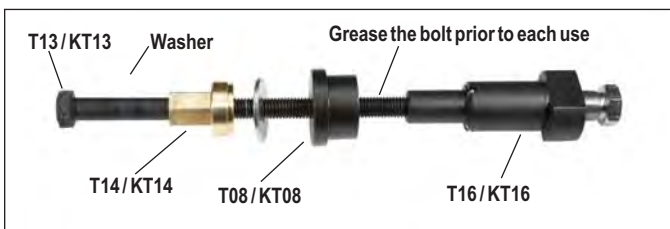

FIGURE 76 - LONG GUIDE PIN BUSHING INSTALLATION AND DIMPLING TOOL
5.6.19 Place the washer and thread the brass nut (T14) on to the bolt (T13) followed by the flange (T08). See Figure 76.